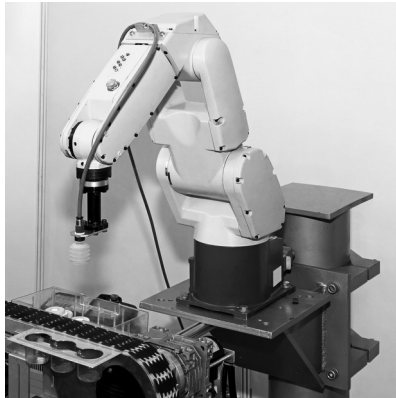

Figure Q7(a)
7. The pick-and-place robotic arm shown in Figure Q7(a) lifts components from a conveyor and places them onto a rack. The arm is controlled by a microcontroller.